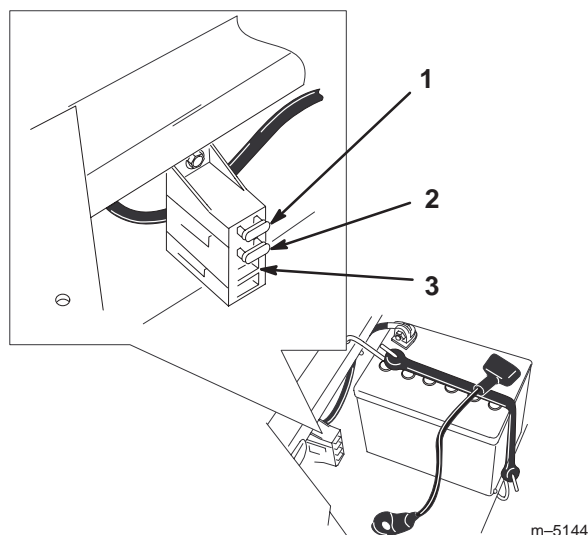

Figure 46
1. Raise the seat to gain access to the fuse holder (Fig. 46).
2. To replace a fuse, pull out on the fuse to remove it (Fig. 46).